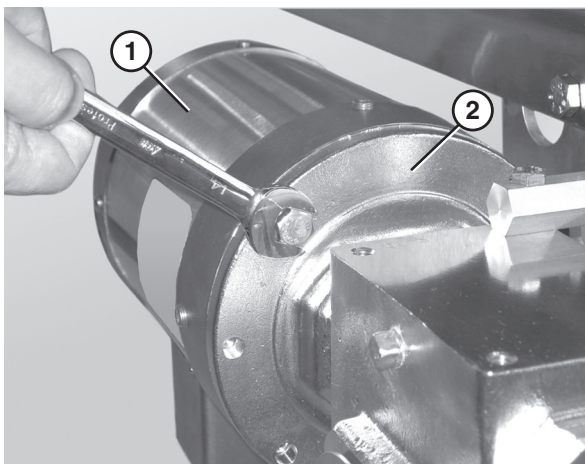

Figure 61
2. Remove the bolts that connect the motor to the drive assembly (**Figure 61**).
3. Remove the motor (**Figure 61, item 1**) from the drive assembly (**Figure 61, item 2**).